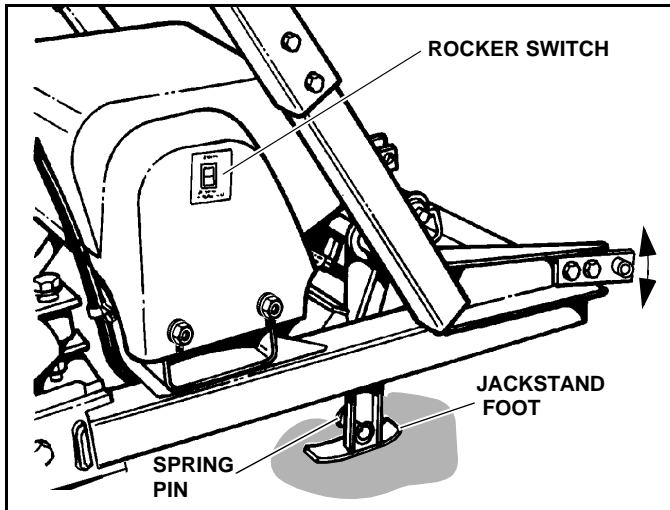

Figure 1-6
5. With the Snow Plow attached to the vehicle and lowered to the ground, place the raise/lower Rocker Switch on the Pump Cover in the lower position. Place the Up/down Switch on the Plow Controller in the cab of the vehicle in the down position and activate the Down Pressure Switch on the Plow Controller. (See Figure 1-6)
7. Pull the Spring Pin on the Jackstand to release the Jackstand from the transport position and allow the foot to rotate down to a vertical position. (See Figure 1-6)